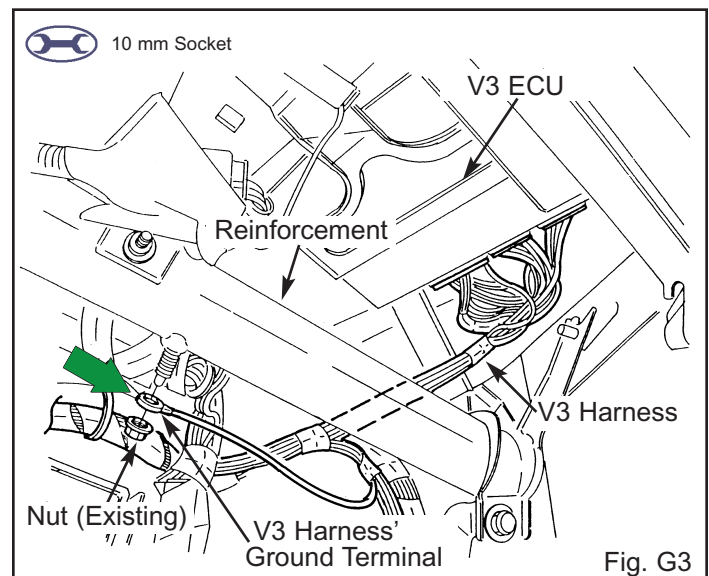

Fig. G3
5. Locate and remove the existing nut from the right most ground point on the reinforcement. (Fig. G3)
6. Secure the V3 harness' ground wire terminal, along with the vehicle harness' ground wire terminal, using the existing nut. (Fig. G3)